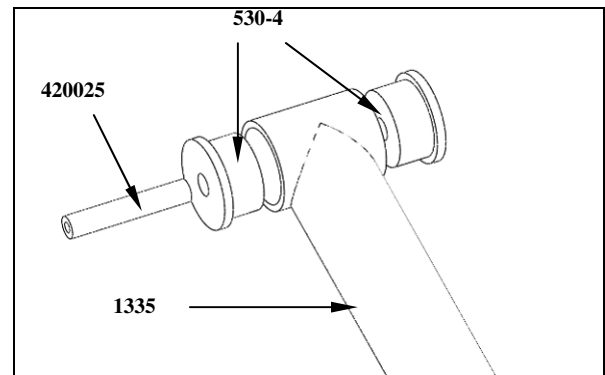

Figure 1
- 2)  Press the lubricated bushings into one end of a new Rancho suspension link 1335 as shown in Figure 1.